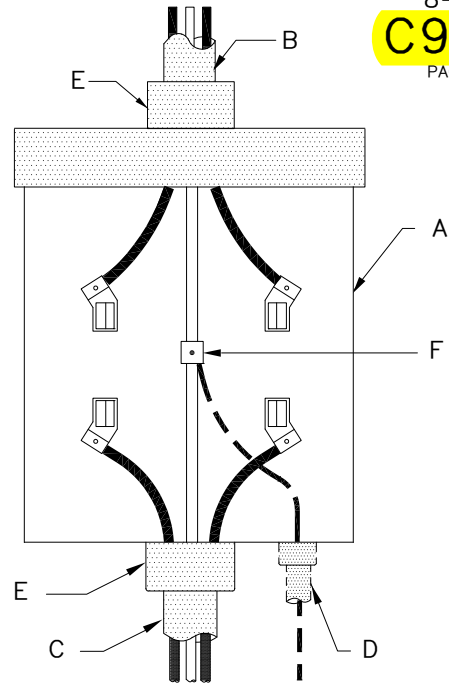

FIGURE 2
- SINGLE POSITION 1-PHASE, 3-WIRE 120/240V SERVICE METER (SEE FIGURE 2)